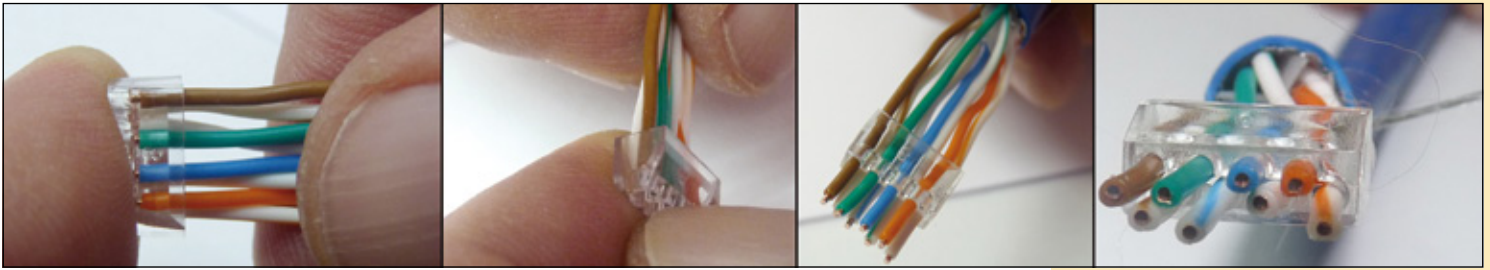

Figure 13
- 10 Proceed to insert the conductors maintaining the order explained above in the **Organizer Insert**, as shown in Figure 13.